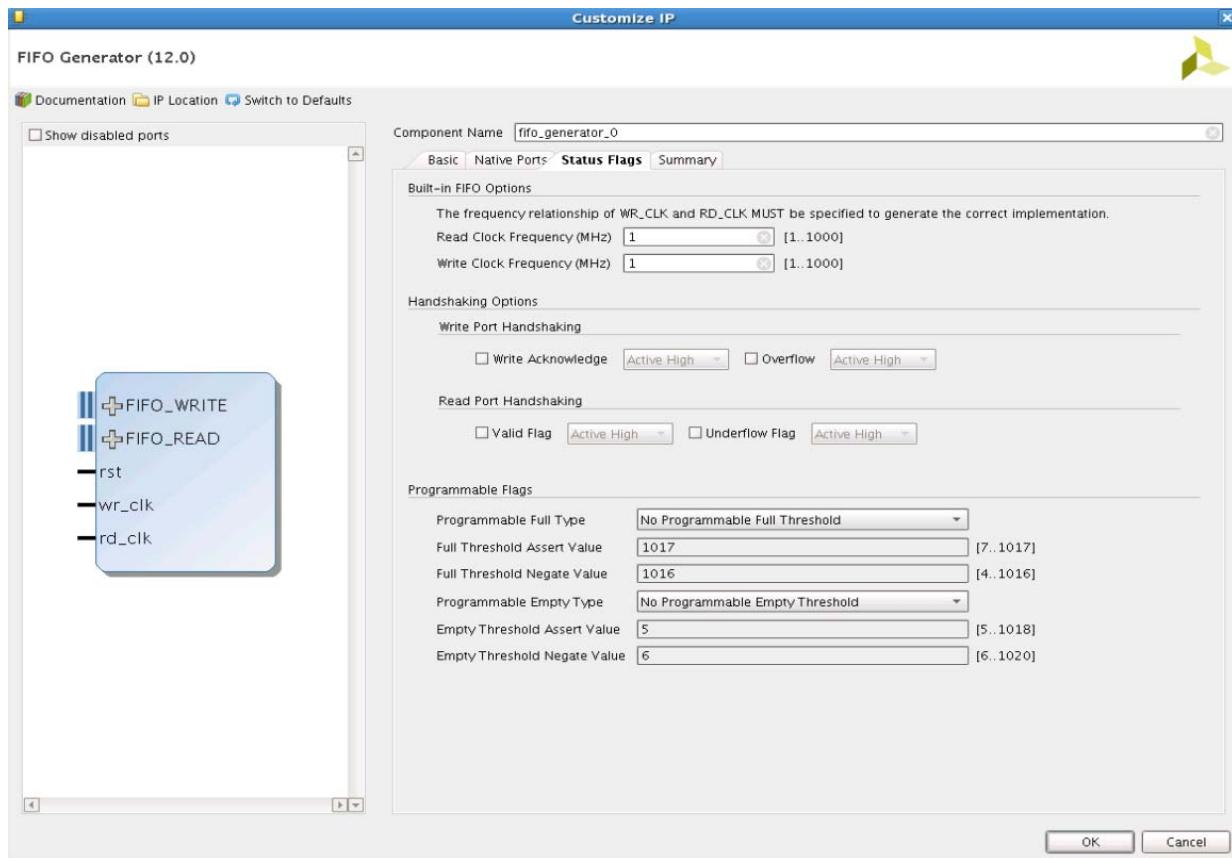

Figure 5-3: Status Flags Tab
- Common Clock (clk), Block RAM: See Common Clock FIFO: Block RAM and Distributed RAM in Chapter 3 for details. This implementation optionally supports first-word-fall-through (selectable in the Status Flags tab, Figure 5-3).
- Common Clock (clk), Distributed RAM: For details, see Common Clock FIFO: Block RAM and Distributed RAM in Chapter 3. This implementation optionally supports first-word-fall-through (selectable in the Status Flags tab, Figure 5-3).
- Common Clock (clk), Built-in FIFO: For details, see Common Clock: Built-in FIFO in Chapter 3. This implementation optionally supports first-word fall-through (selectable in the Status Flags tab, Figure 5-3).
- Independent Clocks (rd\_clk, wr\_clk), Block RAM: For details, see Independent Clocks: Block RAM and Distributed RAM in Chapter 3. This implementation optionally supports asymmetric read/write ports and first-word fall-through (selectable in the Status Flags tab, Figure 5-3).
- Independent Clocks (rd\_clk, wr\_clk), Distributed RAM: For more information, see Independent Clocks: Block RAM and Distributed RAM in Chapter 3. This implementation optionally supports first-word fall-through (selectable in the Status Flags tab, Figure 5-3).
- Independent Clocks (rd\_clk, wr\_clk), Built-in FIFO: For more information, see Independent Clocks: Built-in FIFO in Chapter 3. This implementation optionally supports first-word fall-through (selectable in the Status Flags tab, Figure 5-3).